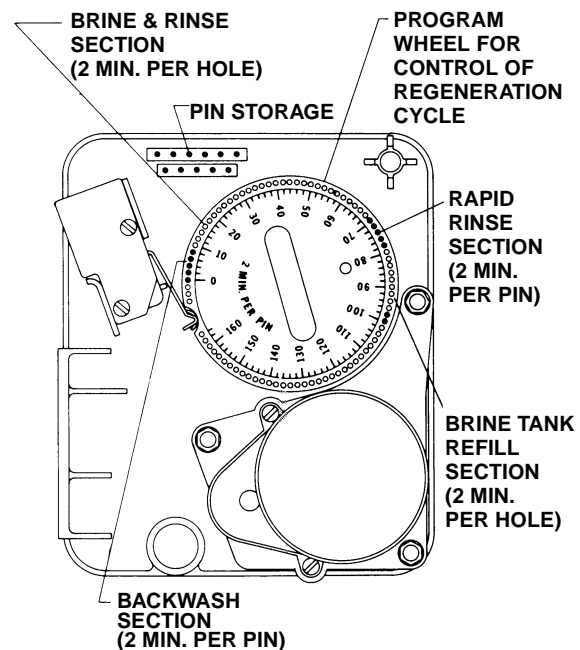

Figure 2
14. Cycle timer into backwash position. Turn manual knob (figure 1) so that the micro switch is riding on the 1st set of pins (figure 2). In this position the tanks will switch (lower piston) and the control valve will move to the backwash position (upper piston). *You must wait until the positioning of upper and lower pistons has stopped before advancing the timer further. If advanced too fast the control will not home into the service position (it will not advance to any other position).* To correct this, rotate the manual knob back to service and start again into backwash. **Note:** once valve has positioned itself into the backwash cycle, the homing circuit is locked in.
NOTE: Make sure the meter cable is not inserted in the meter dome. Swing the timer out to expose the program wheel *Figure 2* (to swing timer out) grab onto the lower right corner of timer face *Figure 1* and pull outward.